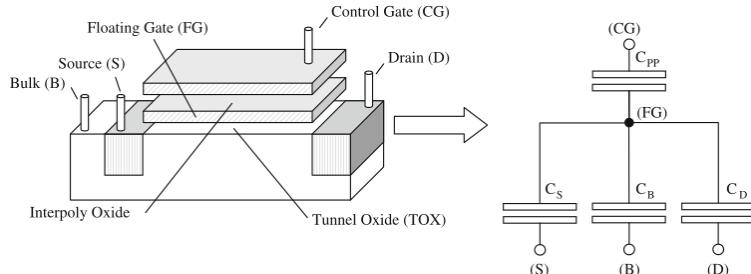

Figure 8.26 Schematic representation of a floating gate memory cell (*left*) and the corresponding capacitive model (*right*)
NAND Flash cell is based on the **Floating Gate (FG)** technology, whose cross section is shown in Figure 8.26. A MOS transistor is built with two overlapping gates rather than a single one: the first one is completely surrounded by oxide, while the second one is contacted to form the gate terminal. The isolated gate constitutes an excellent trap for electrons, which guarantees charge retention for years. **The operations performed to inject and remove electrons from the isolated gate are called program and erase, respectively.** These operations modify the threshold voltage  $V_{TH}$  of the memory cell, which is a **special type of MOS transistor**. Applying